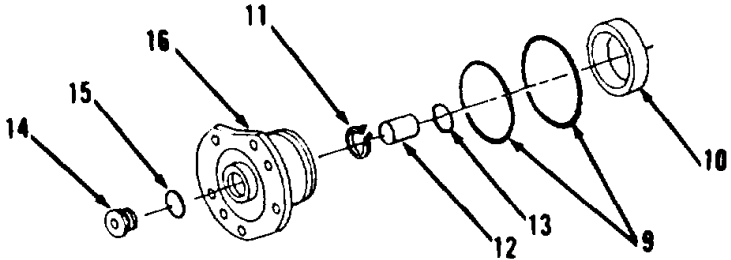

Figure 14-4.
- 13. Remove two preformed packings (9) and bearing cup (10, Figure 14-4). Discard two preformed packings (9).
- 14. Remove retaining ring (11), carrier ring (12) and seal ring (13). Discard seal ring (13).
- 15. Remove plug (14) and preformed packing (15) from bearing cage (16). Discard preformed packing (15).